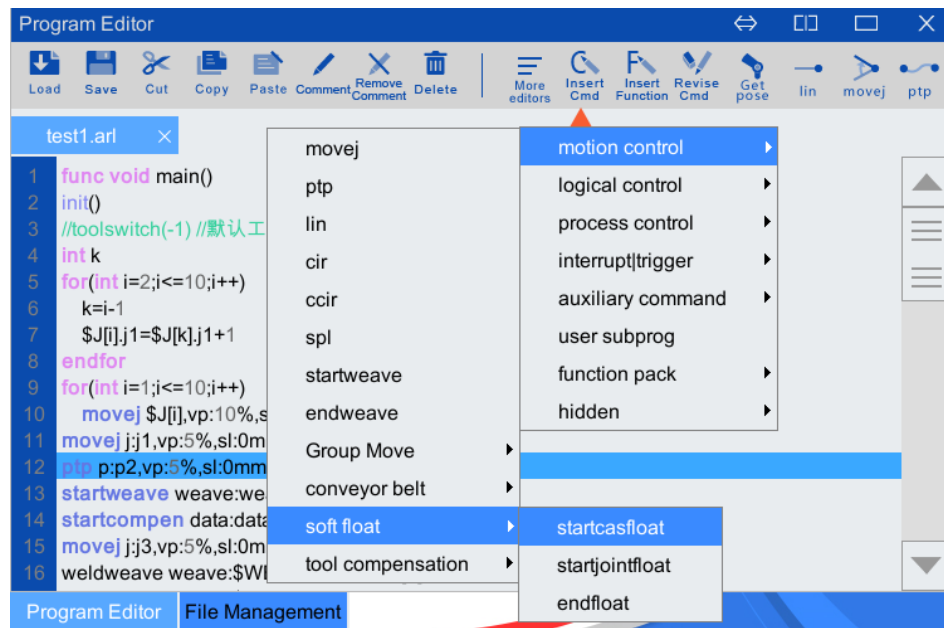

Figure 5-4 Soft float submenu command
Step1. Click [Insert Cmd/Motion Control/Soft float], and the selection menu shown in Figure 5-4 will pop up.